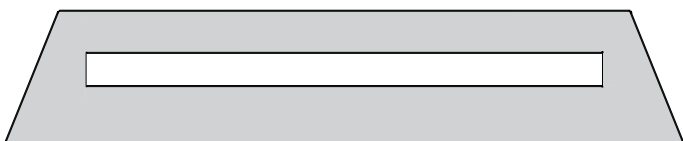

Figure 44
2. Apply the accessory decorative media to the shaded area only. **See Figure 44.** Use enough to cover the floor of the fireplace, but do not allow the media to reach higher than the flange surrounding the burner. Never place decorative media inside the flange surrounding the burner itself.